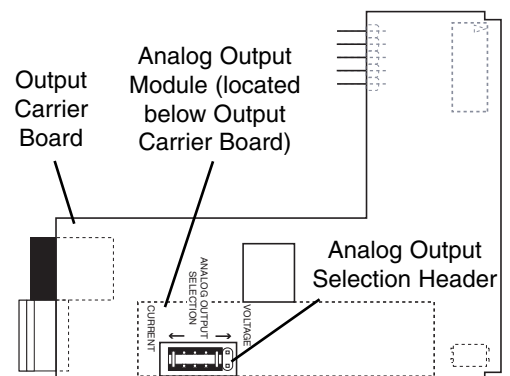

Figure 9 – Analog Output Selection Header Placement
- 1) See Figure 9. Make sure the ANALOG OUTPUT SELECTION HEADER on the analog output module is set in the appropriate position: VOLTAGE or CURRENT.